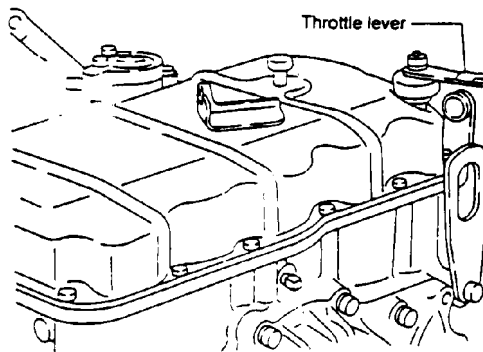

Figure 2
6. Disconnect the control cable and throttle cable, remove the throttle lever (Figure 2) and remove the transaxle cover.